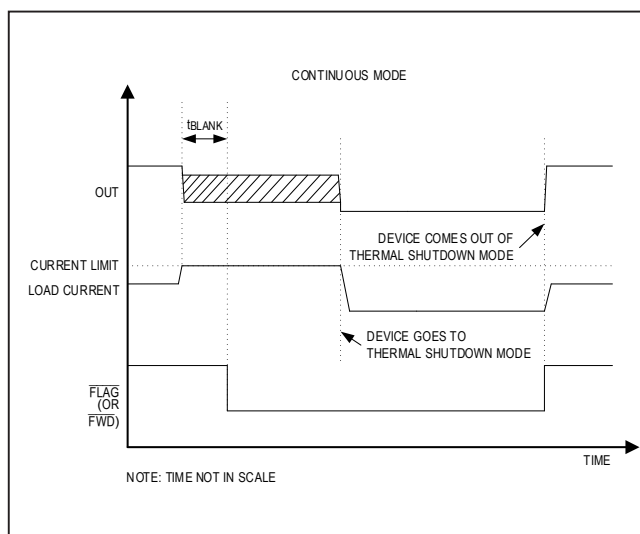
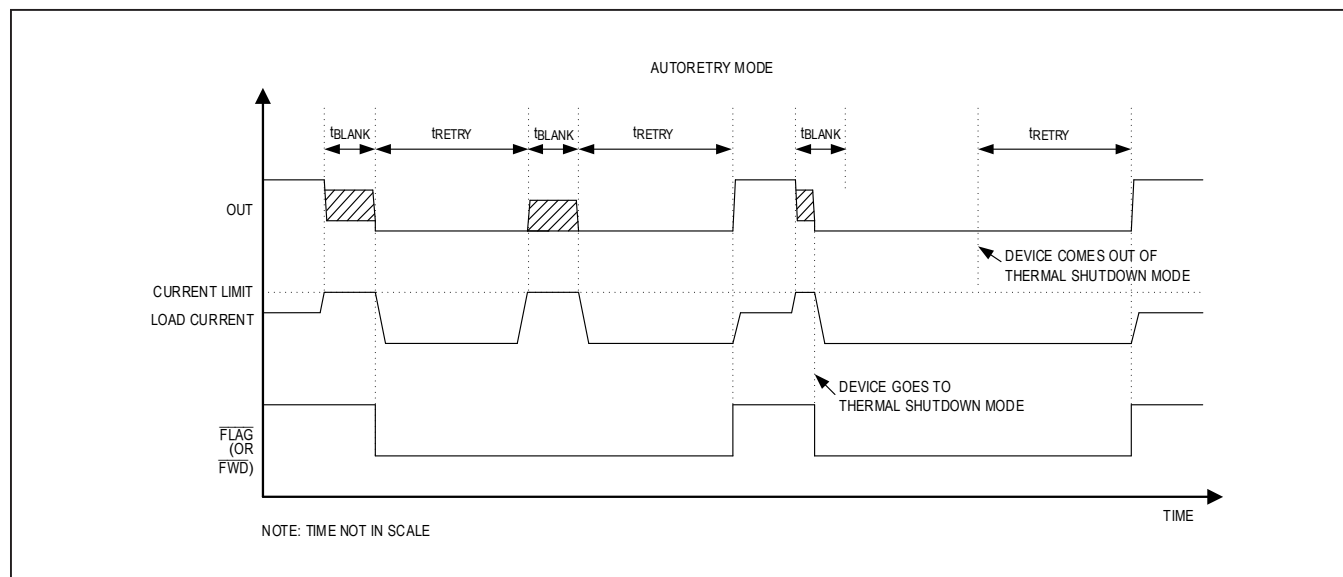
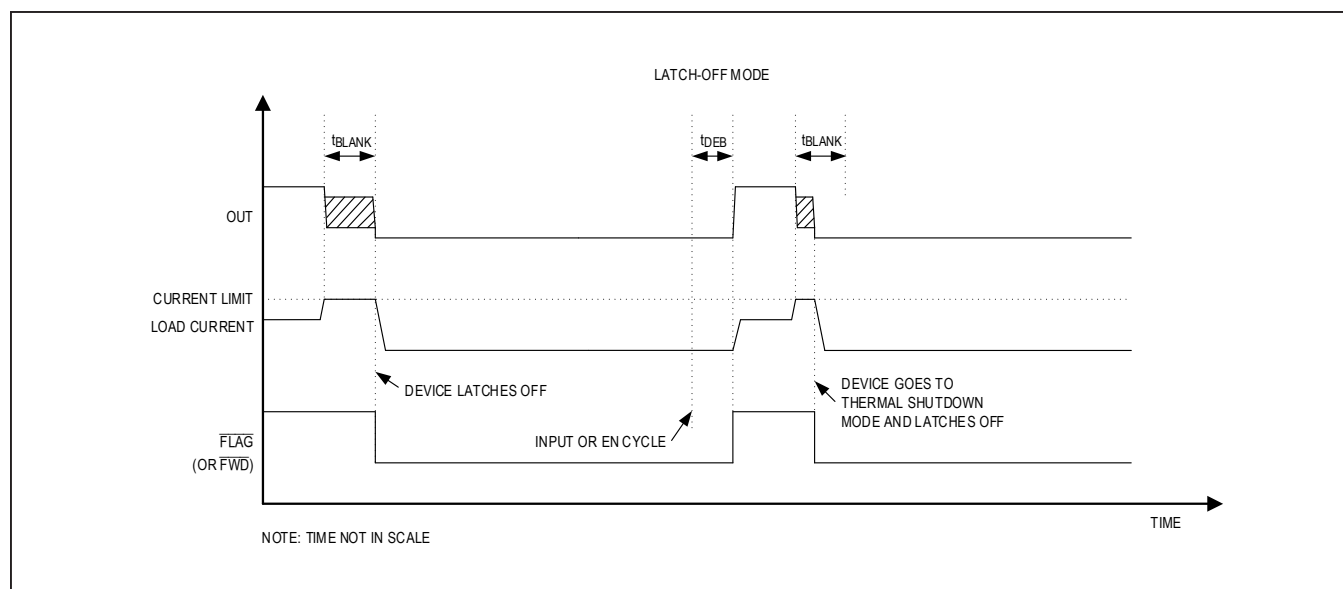

Figure 4. Continuous Fault-Timing Diagram
Figure 3. Autoretry Fault-Timing Diagram
Figure 5. Latch-Off Fault-Timing Diagram
With a 40ms (typ) t_{BLANK} and 600ms (typ) t_{RETRY} , the duty cycle is 6.25%, resulting in a 93.75% power reduction when compared to the switch being on the entire time. Figure 3 depicts typical behavior in the autoretry current-limit mode.
In continuous current-limit mode, when current through the device reaches the current limit threshold, the device limits output current to the programmed current limit. The $\overline{\text{FLAG}}$ (or $\overline{\text{FWD}}$) pin asserts if overcurrent condition is present for t_{BLANK} and deasserts when the overload condition is removed. Figure 4 depicts typical behavior in the continuous current-limit mode.
In latch-off current-limit mode, when current through the device reaches the current-limit threshold, the t_{BLANK} timer begins counting. The \overline{FLAG} (or \overline{FWD}) pin asserts if an overcurrent condition is present for t_{BLANK} . The timer resets when the overcurrent condition disappears before t_{BLANK} has elapsed. The switch turns off and stays off if the overcurrent condition continues beyond t_{BLANK} . To reset the switch, either toggle the control logic (EN) or cycle the input voltage. Figure 5 depicts typical behavior in latch-off current-limit mode.
The thermal limit behaves similarly to the current limit. In autoretry mode, the thermal limit works with the autoretry timer. When the junction temperature falls below the falling thermal-shutdown threshold, devices turn on after the retry time. In latch-off mode, the devices latch off until power or EN is cycled. In continuous mode, the devices only disable while the temperature is over the limit. There is no blanking time for thermal protection. Figure 3, Figure 4, and Figure 5 depict typical behavior under different current limit modes.